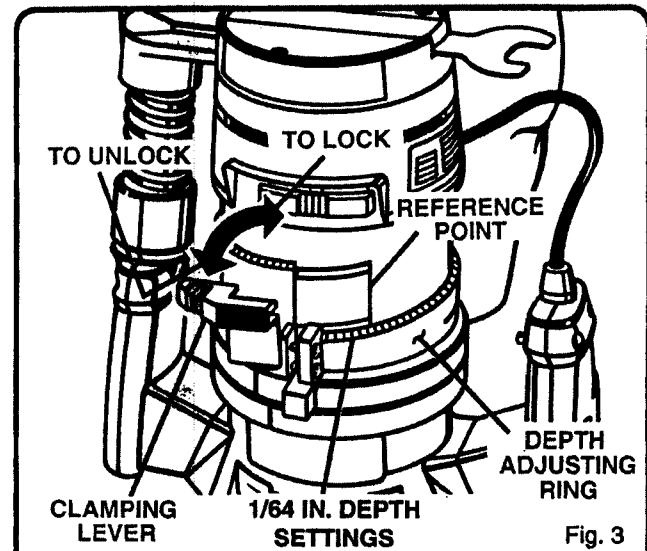

Fig. 3
See Figures 3 and 4.
2. Place your router on a flat surface, unlock clamping lever, and adjust until cutter is inside subbase. See Figure 3.